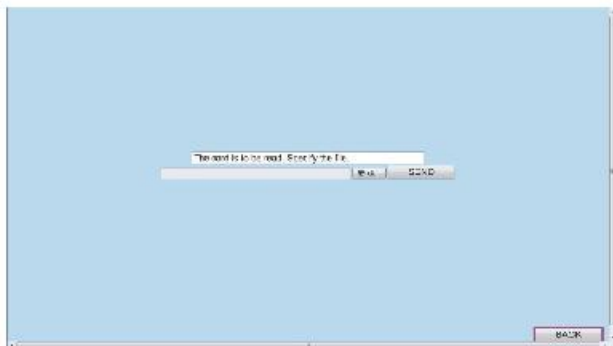

Fig. 6 Select upload file window
- (1) Insert the USB memory into the specified slot.
- (2) Touch [LOAD] on the USB memory screen to display the select upload file screen (Fig. 6).
- (5) After file selection, touch the [Open] button in the [Select Upload File] window to display the selected file name on the file selection screen (Fig. 6).